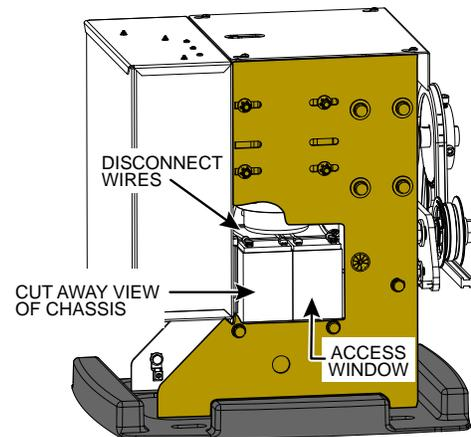

Figure 83. DC Battery Replacement
2. To access the 8Ah batteries and disconnect its wires, cut the two black wire ties and slide the 8Ah batteries through the access window. See Figure 83. Another option is to remove the four screws that hold the control box to the chassis.
3. Disconnect the black, blue, and red wires as you slide the batteries through the access window. See Figure 83.